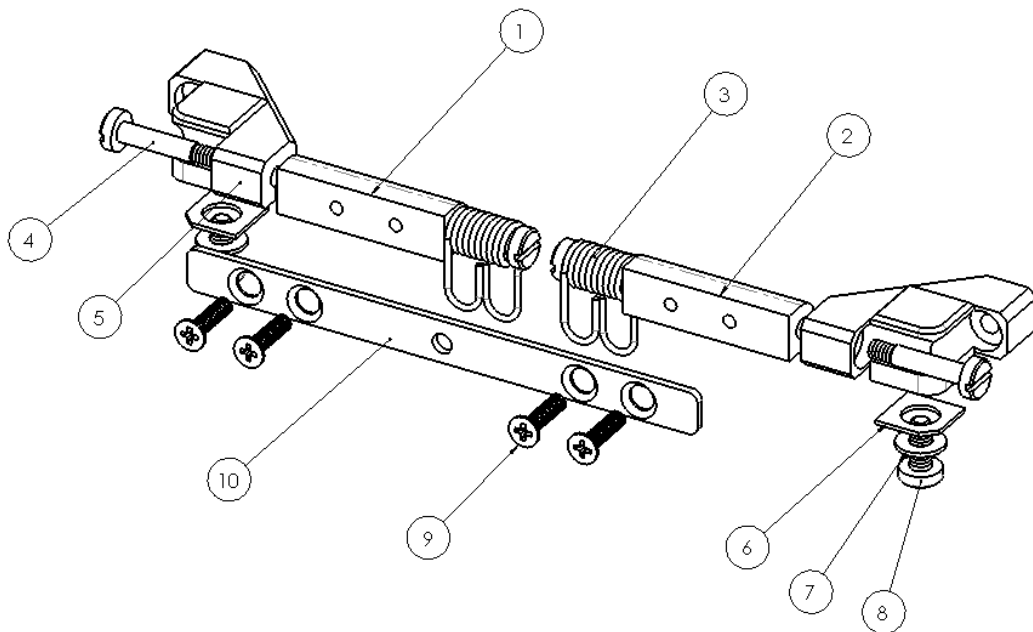

Figure 1: Exploded view of the standard deployable solar panel end hinge set (option /F0 shown)
Table 1: Standard assembly components list for Figure 1 exploded view
A panel brace is a thin aluminum part that is **required** for proper alignment of the hinge set. The panel brace also helps to distribute the clamping load of the four M2 screws where the deployable panel connects to the hinge set assembly. Due to the variation in customer deployables, this part is not provided with the hinge set. The following mechanical details are the minimum set of features required in order to properly use the hinge set. The M2 flathead screws (Item No. 9 in Figure 1) aid in aligning the two hinges relative to each other when the brace implements the countersinks shown in Figure 2. The use of flathead screws and countersinks in the brace is strongly recommended.
If thread locking is desired, customers can apply thread locking compound to the male threads on the items 4, 8, and 9 in Figure 1. Extreme care must be exercised to insure that no thread locker is present in the bores of the feet (item 5 in Figure 1). Pumpkin recommends the use of Loctite 222MS™ Purple thread locker for these parts.